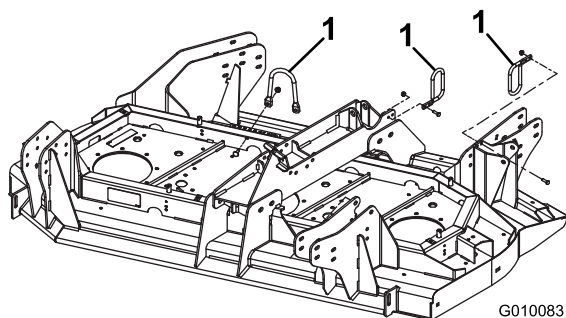

Figure 1
3. Remove (3) hose guides from cutting unit (Figure 1). The (2) guides, around the hoses, can stay on the hydraulic hoses.
9. Position and secure the three (3) hose guides to the cutting unit (Figure 1).